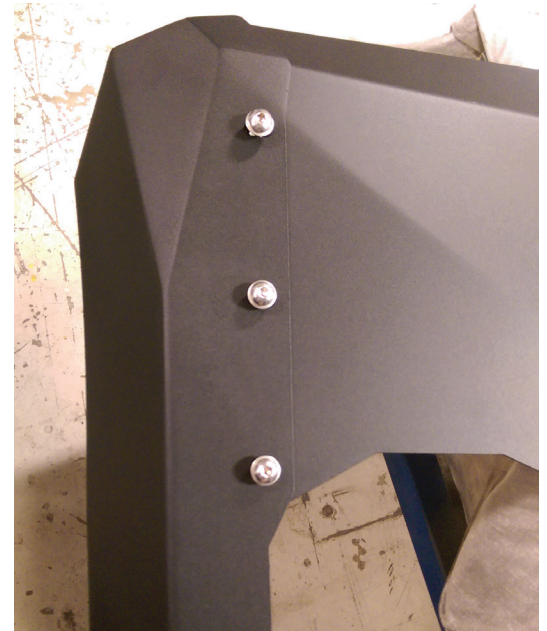

Figure 17
4. Loosely install both ViCowl arms to the visor using the six (6) 3/8"-16 yellow zinc, hex cap screws and rubber bonded washers provided in the hardware kit. (Figure 17)